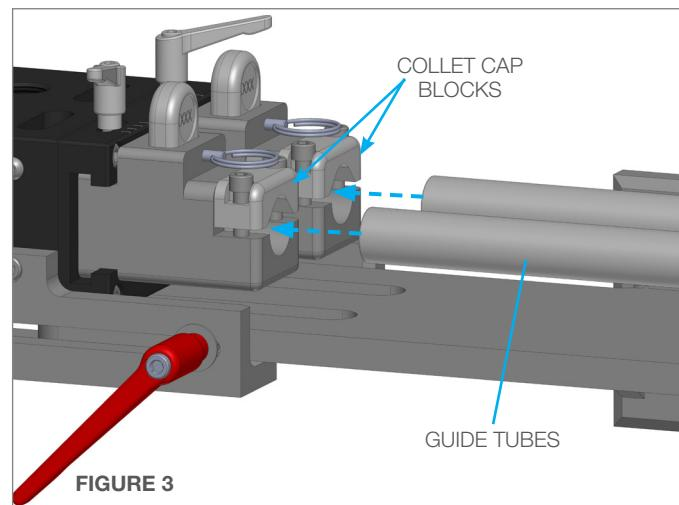

FIGURE 3
- Loosen the screws on both collet cap blocks. Slide the slide the Guide Tubes into the T-Blocks until the stop and tighten the two screws until secure. (**Figure 3**)